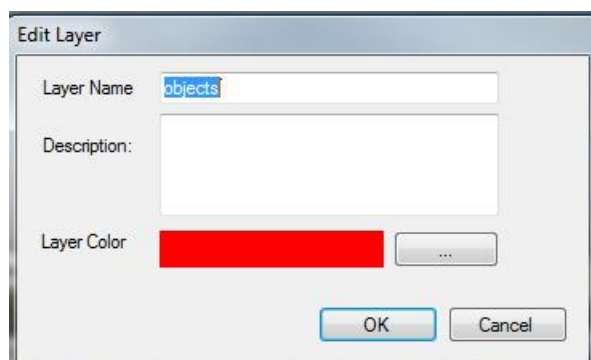

Figure 58: Layer Properties Window
- Properties – shows the “Layer Properties window, containing layer name, description and color and enables editing those properties (Figure 58).